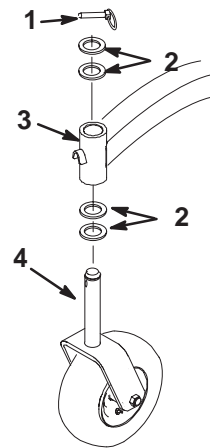

Figure 67
2. Remove the locking pin and spacer(s) from the top of the caster wheel fork (Fig. 67).
6. Inspect the caster wheel fork for wear and replace if necessary (Fig. 67).
7. Slide the caster wheel fork through the bushings in the mounting tube. Replace the spacer(s) onto the fork and secure with the retaining ring (Fig. 67).